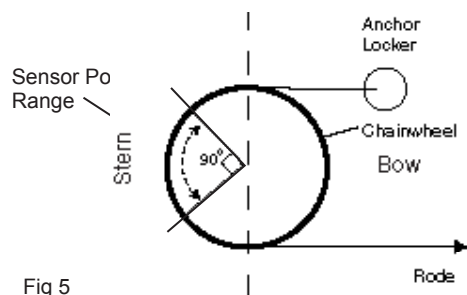

Fig 5
**Sensor Position:** The sensor must be fitted into the deckplate within the sensor position range at the stern end of the windlass (See Fig 5). It must also be aligned with the magnet so that the rode passes between the sensor and the magnet. The centre of the magnet and the centre of the sensor may be up to 10mm out of direct alignment (See Fig 3). The gap between the sensor and magnet must be as per the table below.